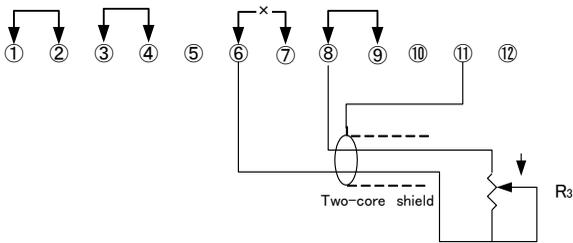

Fig. 10
- 2) Remove the short bar ⑥—⑦.
- 3) Connect variable resistor R_3 ($10k\Omega$) across ⑥ and ⑧ as shown Fig. 10.